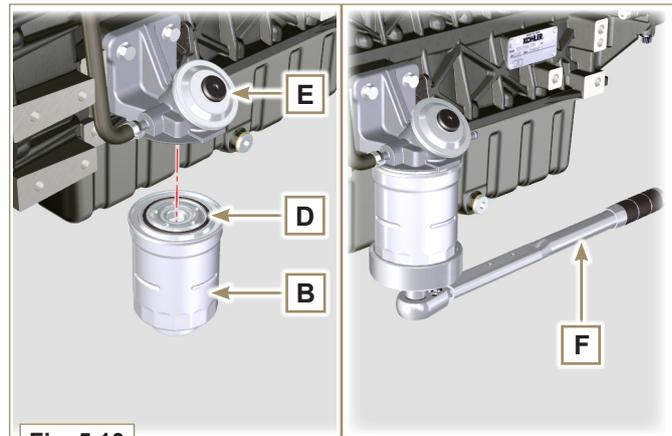

Fig. 5.10
- 3 - Loosen the cartridge **B** using the appropriate wrench **F** (Fig. 5.10).
- 5 - Tighten the new empty cartridge **B** (Fig. 5.10) on the diesel fuel filter support **E** using the special wrench **F** (tightening torque of **17 Nm**).